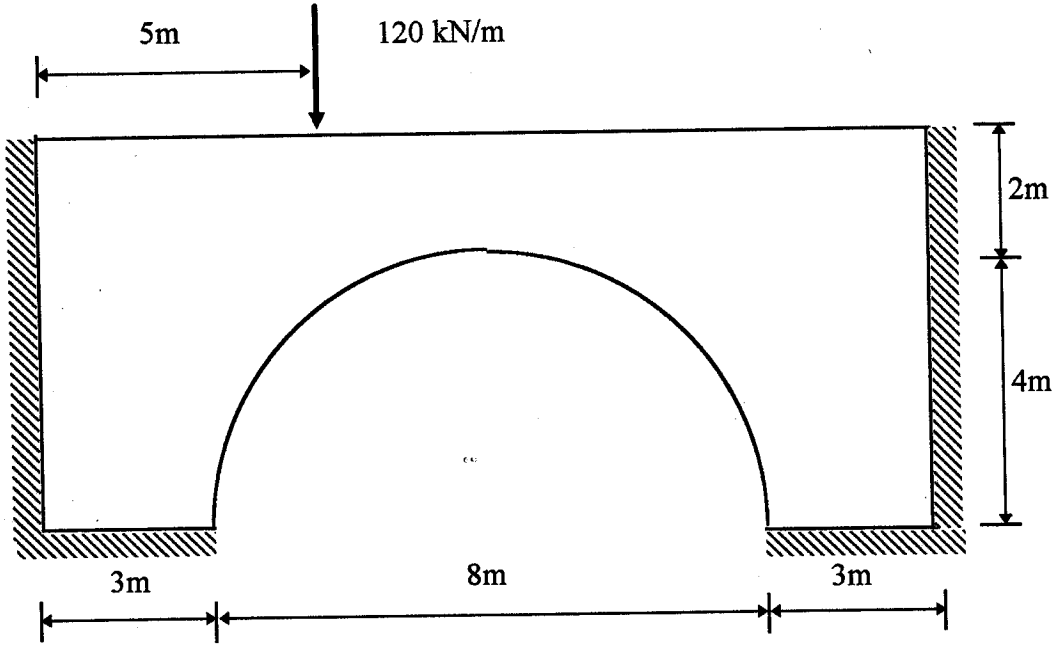

Figure 2
5. A longitudinal section through an 8m wide concrete arch bridge is shown in Figure 2. The bridge is subjected to a knife edge loading of 120kN/m width. Describe the procedure which you would follow to carry out a finite element analysis of this structure using the ANSYS package. You should include, inter alia, the following in your discussion : - solid modelling, element selection and properties, mesh generation, application of loads and boundary conditions, solution procedure, post-processing and error checking.